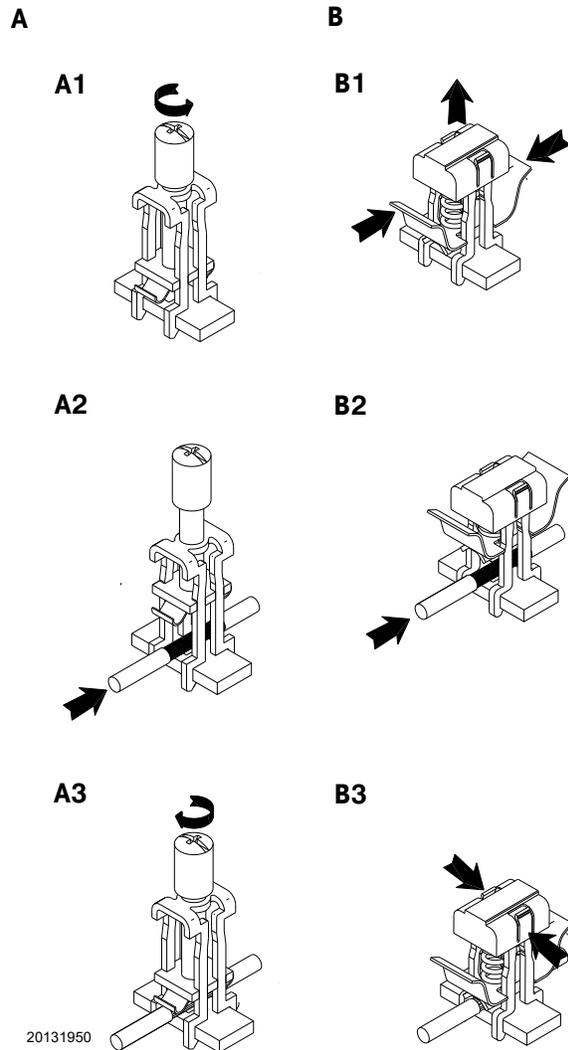

Fig. 32
- unscrew the screw until space is created for inserting the shielding of the shielded cable A1)(Fig. 32);
- pull the indicated tabs upwards and lift until locked in the open position B1)(Fig. 32);